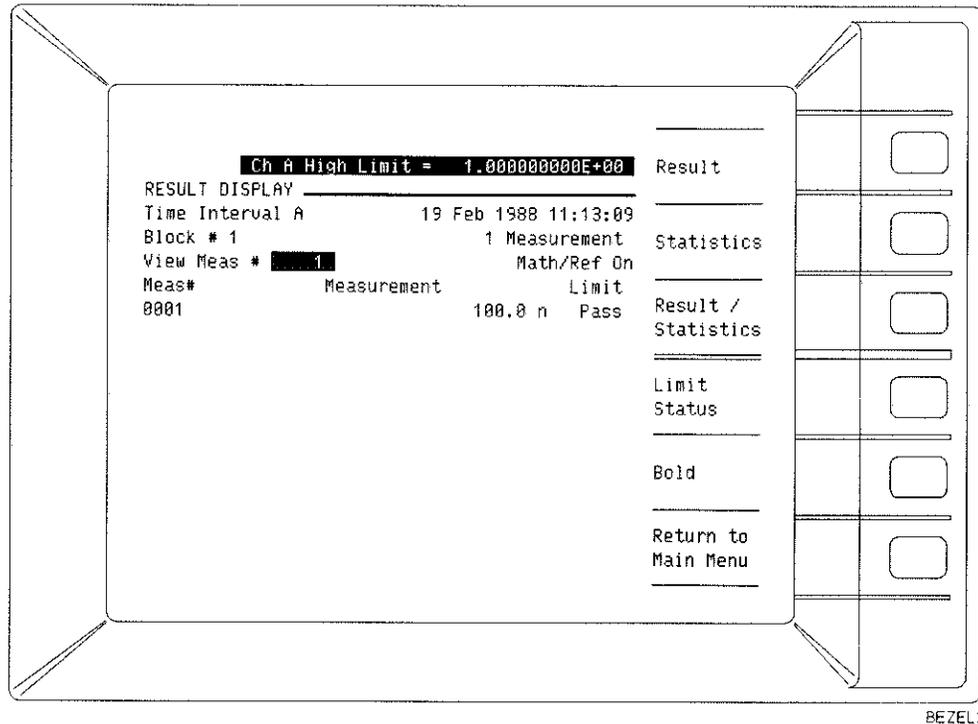

Figure 2-7. Numeric Screen With Math Data
- The Numeric screen should display “Math/Ref On” above the measurements and “Pass” after the measurement as indicated in *Figure 2-7*.